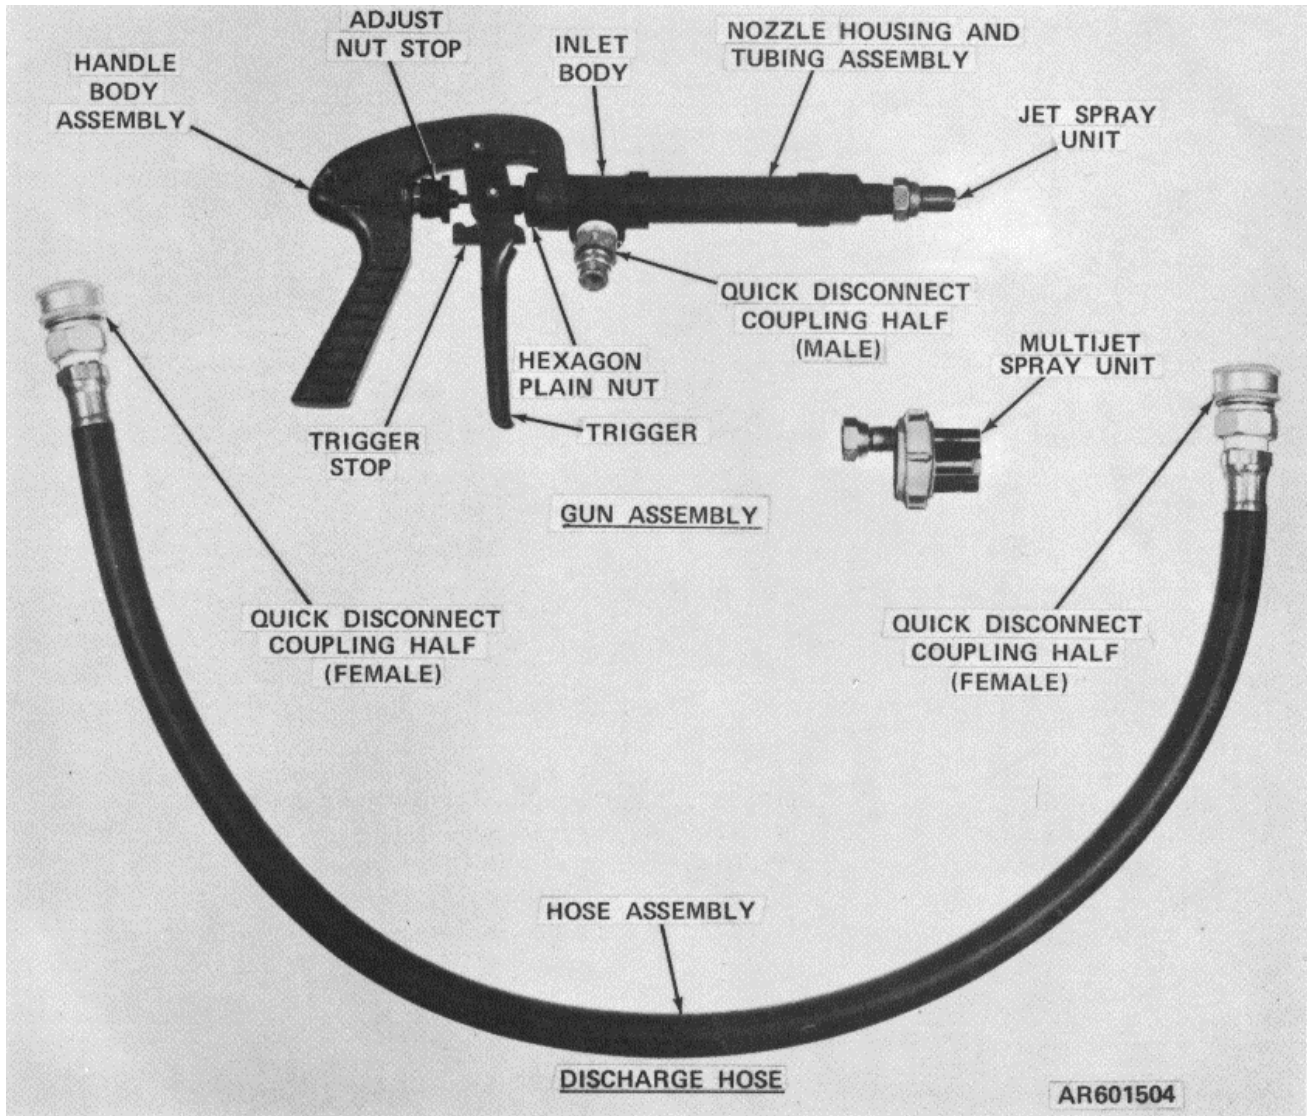

Figure 1-5. Gun assembly group
(1) *General* The gun assembly group (fig. 1-5) consists of a gun assembly and a discharge hose assembly. The gun and hose assembly directs the discharge of CS dry agent toward the target.
(1) *Location* The trigger is located on the gun assembly (fig. 1-5).
(1) *Location*. The jet spray unit is shown in figure 1-5.
(1) *Location*. The multijet spray unit is shown in figure 1-5. It consists of four orifice tips held in place by a tip holder.